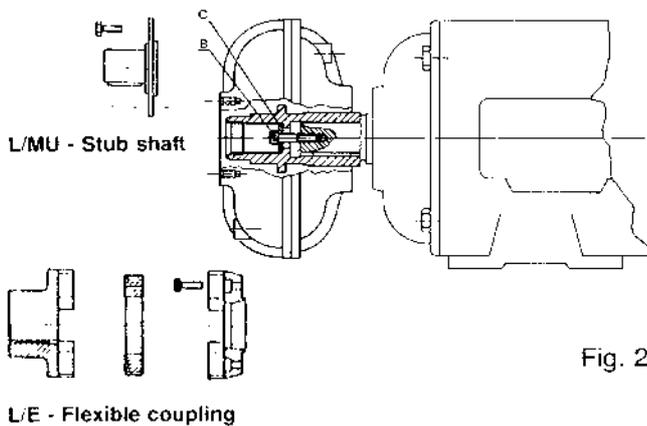

Fig. 2
- Secure the hydrodynamic coupling on the shaft with the fixing screw B and washer C (fig. 2).
- place the arrow marked on the casting at 12 o'clock position (rotating towards the top); the filler plug will be at an inclination in relation to vertical according to the angle inclined in the table below and fig. 2.